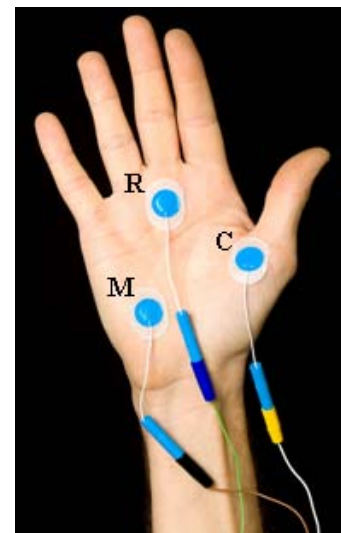

Figure 4-4 Skin electrode placement on adults
1. Place the electrodes according to Table 4-1 and Figure 4-4.